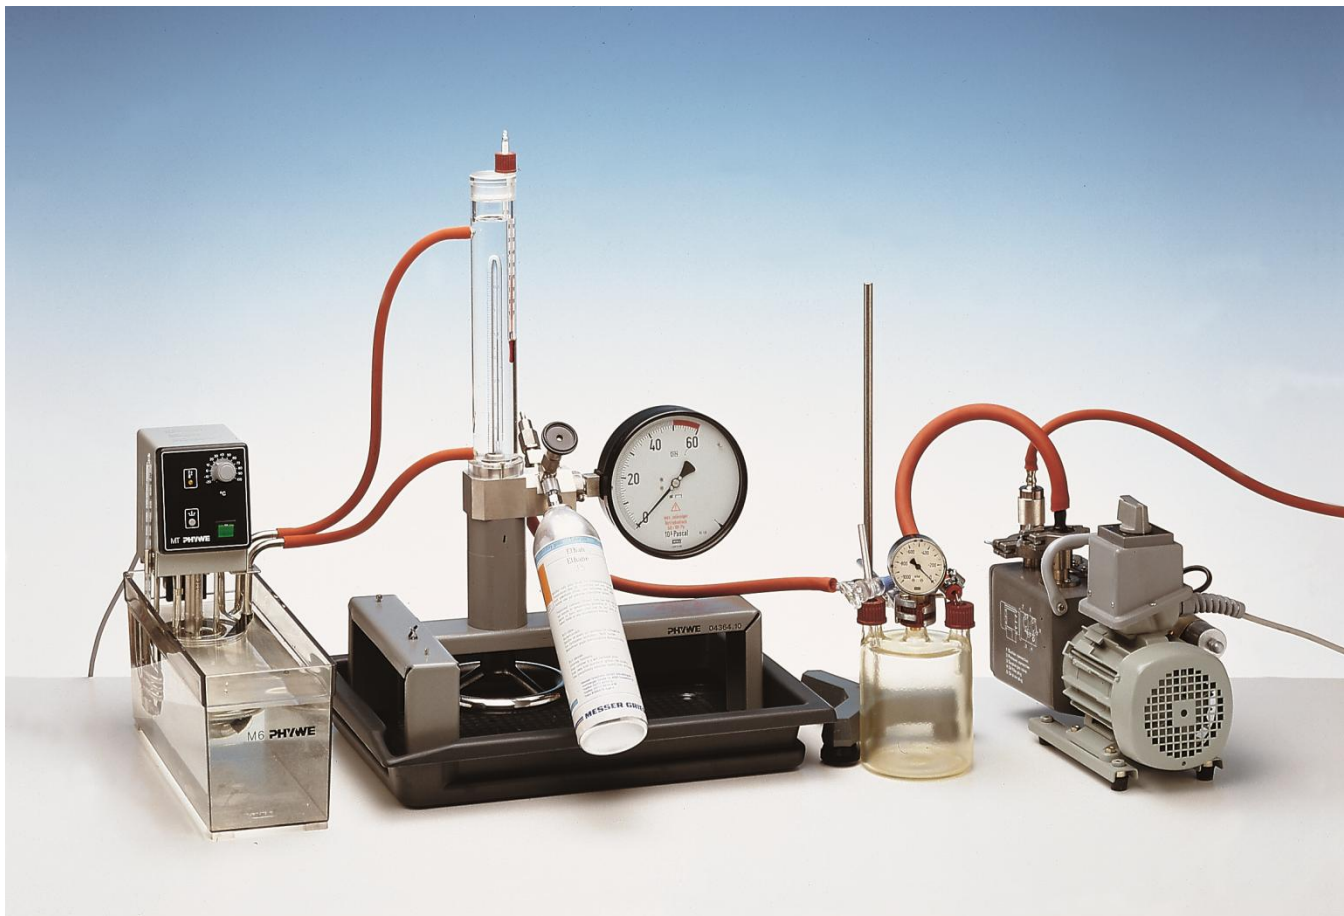

Fig. 2: Experimental set-up Thermal equation of state and critical point P2320400
- Meticulously remove all residues of gas from the pressure chamber. To achieve this, evacuate the chamber for at least 30 minutes, so that even any gas which has dissolved in the mercury is removed. To be certain that no mercury can pass into the pump, insert a Woulfe bottle in front of the pump, holding it firmly in position with a stand and universal clamp (see Fig. 2).
Fig. 2 shows a complete experimental set-up. For qualitative experiments, it is sufficient to fill the water container with hot or cold water.